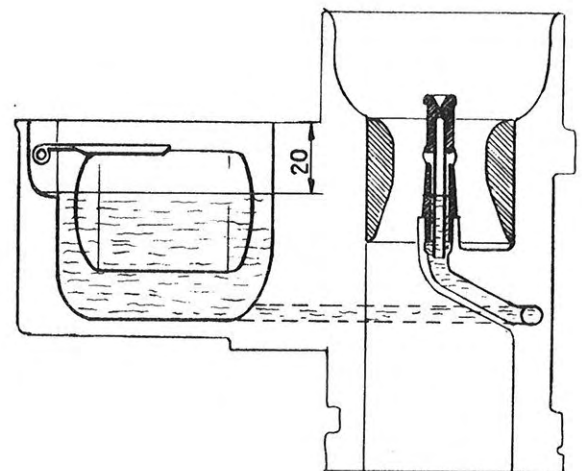

Fig. 8. Float level
If the engine is difficult to start when warm, the float level can be lowered to 21 - 22 mm, see Fig. 8. This can be achieved by placing a fibre washer under the needle valve.
8. Check carburetor fuel level, see Fig. 8. The
If the engine is difficult to start when warm, the float level can be lowered to 21 - 22 mm (see Fig. 8). This can be done by placing a fibre washer under the needle valve.